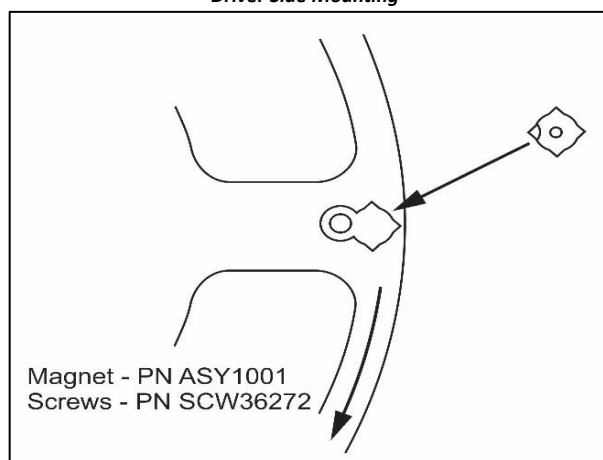

Figure 6: Installing the Magnet
4. Install the magnet in the wheel with the hole in the plastic over molding facing out from the engine (**Figure 6 above**). The chamfer on the magnet must be positioned next to the chamfer on the wheel.